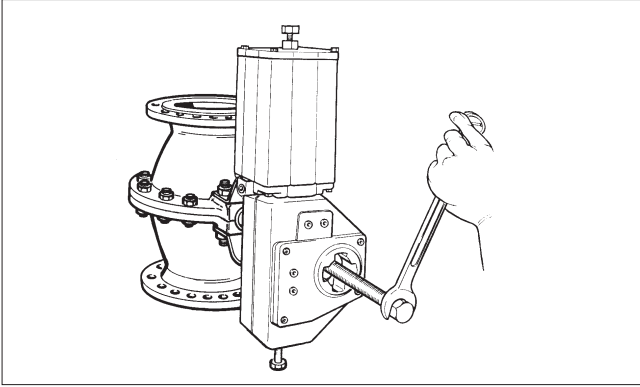

Fig. 6 Removing the actuator with the extractor
- Remove the actuator from the valve with an extractor, that can be ordered from the manufacturer (See Section 8). See Figure 6.